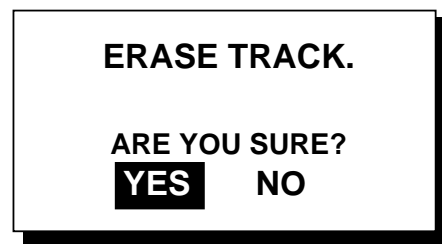

Figure 2-9 Prompt for erasure of track
- Select TRACK? and press the [ENT] key. The message shown in Figure 2-9 appears.